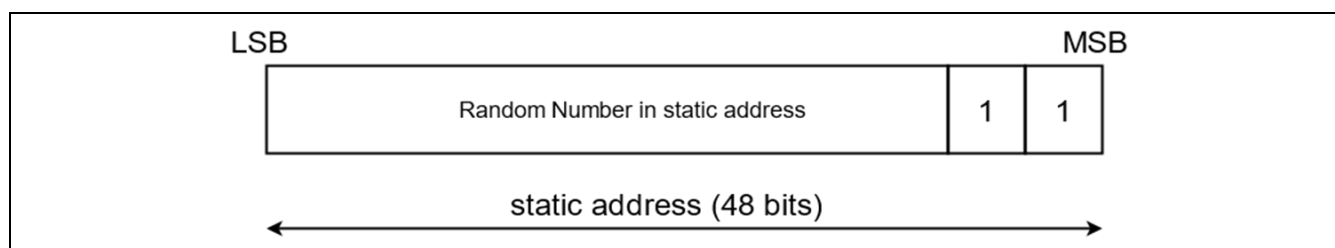

Figure 5.22. Static address format
Since BLE Protocol Stack does not check format of BD address written in each area (1)-(3), when setting static address, set value that matches the format shown in Figure 5.22.